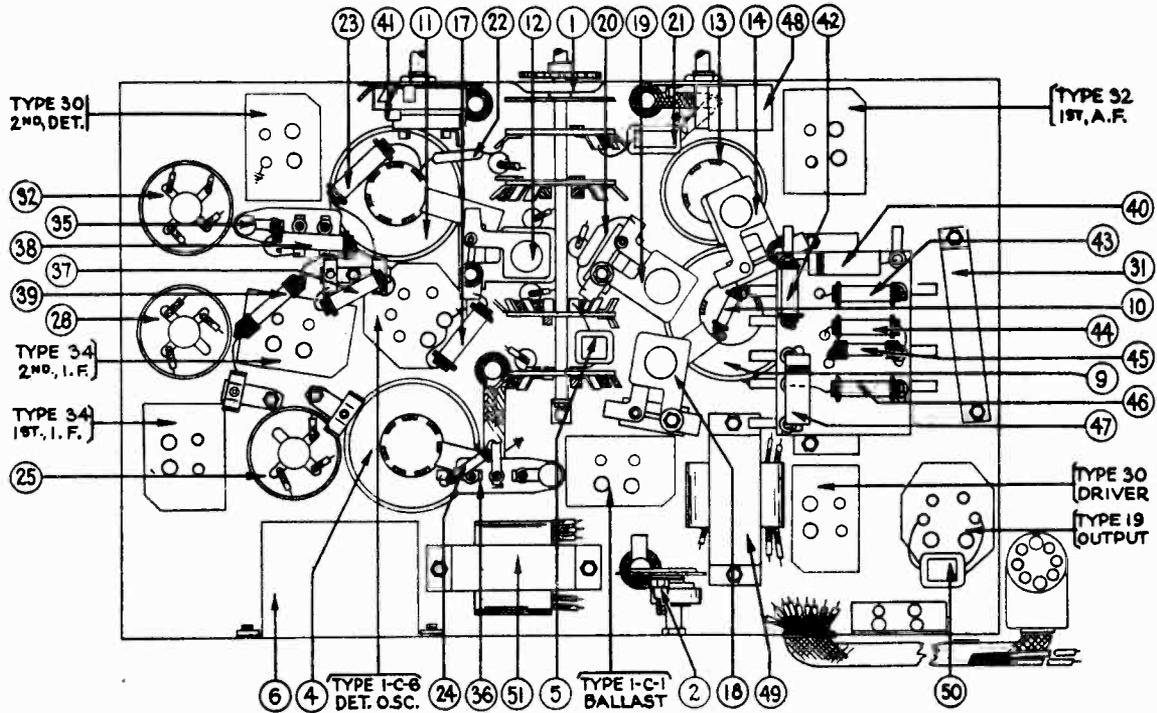

FIG. 5—Bottom View of Chassis, Showing Parts, and Position of Compensating Condensers Reached from Below Chassis
Turn the Wave-Band Switch to Range 2, and adjust the Station Selector to 3.6 M.C. The "Antenna" connection between the Signal Generator and the receiver chassis must be removed for this adjustment, otherwise the output of the Signal Generator will be too great. Adjust the compensating condenser ⑫ to give maximum response in the output circuit. This compensating condenser is located underneath the chassis and is not accessible from above. See Figure 5.
The Model 048 or its equivalent is now used again. Turn the Wave-Band Switch of the set to Range 2 and the Station Selector to 1.5 M.C. Set the Signal Generator at 1500 K.C. Make sure the "Antenna" connection between the Signal Generator and the Chassis has been restored. Adjust compensating condenser ⑬ located underneath the chassis, (Figure 5). Adjustment is made from the underside of the chassis.
Tune the Wave-Band Switch to Range 1 and the Station Selector to 1400 K.C. Set the Signal Generator at 1400 K.C. Adjust compensating condenser ⑭, which is located underneath the chassis. (See Figure 5). This adjustment is made from the underside of chassis.
Finally, with Wave-Band Switch at Range 1, and Station Selector at 520 K.C., set the Signal Generator at 520 K.C. and adjust compensating condenser ⑮ (Figure 5). This compensating condenser is also mounted underneath the chassis, and reached from below.